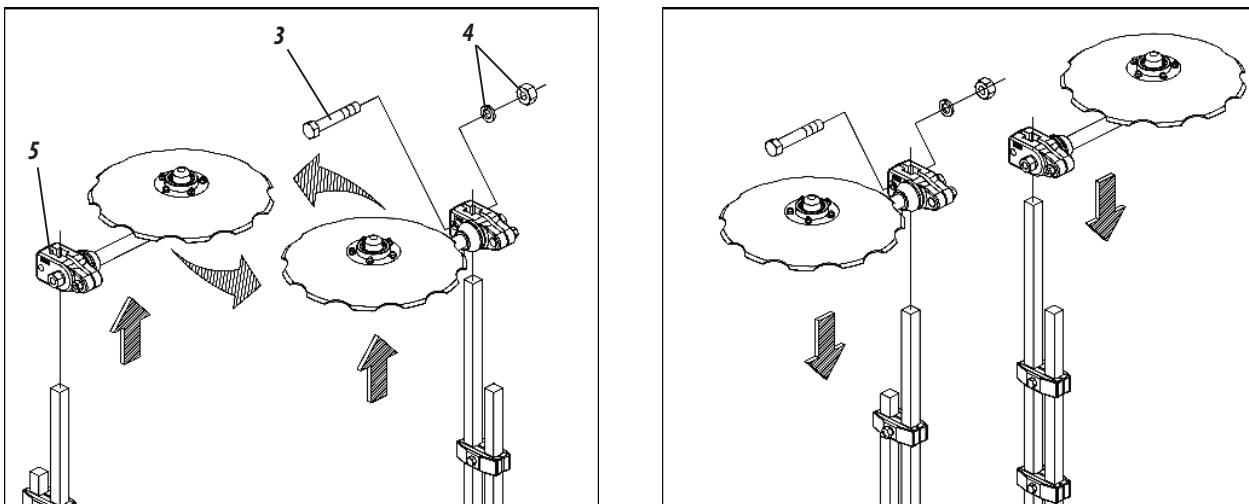

Figure 08
- 09 - Before start working with the drill, change the discs (2) in line markers (1), for this do the following:
- 10 - Loosen the screws (3), washers and nuts (4), remove the support from discs (5) and assemble them on markers contrary to what they were originally assembled, as shown in Figures 08.